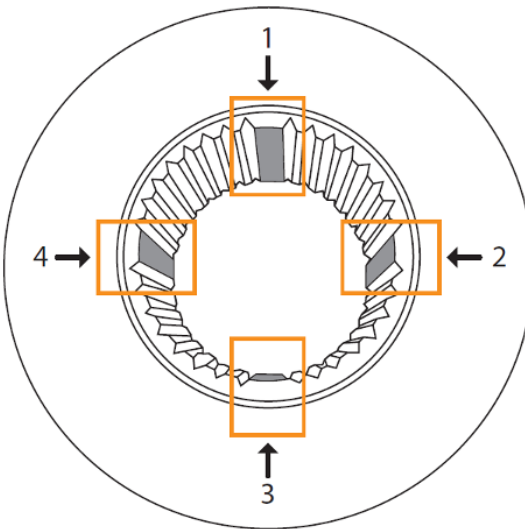

Figure 2. Pitman arm with 4 grooves
- Verify groove count. **See Figure 2.**